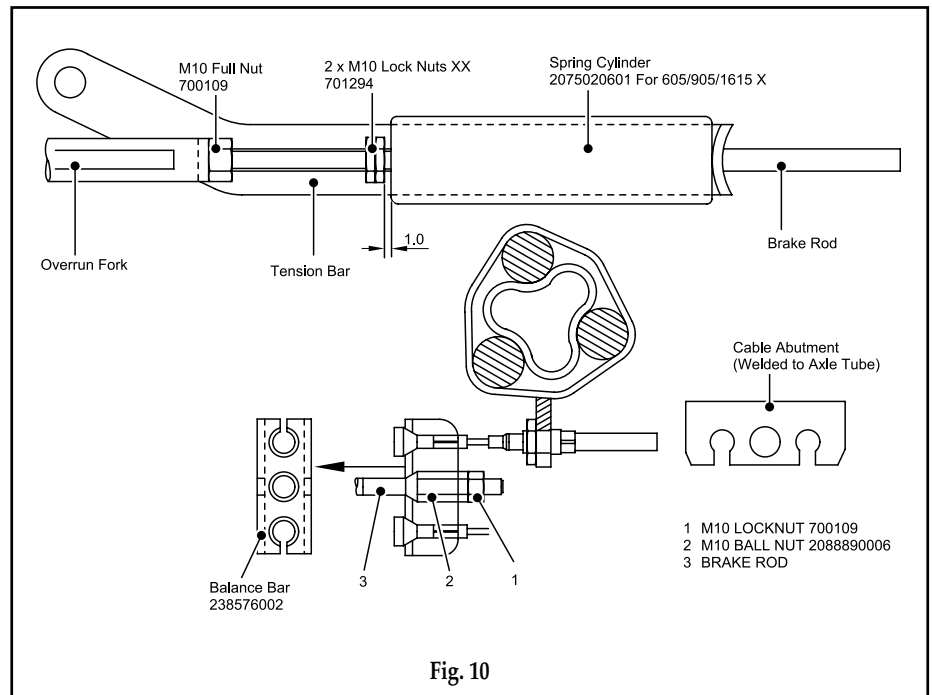

Fig. 10
- x. Ensure the balance bar (compensation) is being pulled evenly. This bar (double on tandem axles) should always be paralleled with the axle tube when pulled (figs. 8 & 10). Adjust M8 lock and ball nuts, if necessary, to achieve correct parallel position (fig. 10).
Over adjustment to the long ball nut (Fig 10), could induce movement of the inner brake cable, reducing the effective clearance of the brake shoes. If the over run lever will not make contact, it is possible the two lock nuts, forward of the spring cylinder, are incorrectly adjusted. Loosen the nuts and adjust the brake rod as above (Figs 8 & 10).
- xiii. Adjust the two locking nuts, forward of the spring cylinder (fig. 10), (on some chassis a single Nyloc nut is used) to give 1mm of clearance on the spring cylinder. This cylinder (the energy store for the handbrake operation) must be able to rotate only, not slide on the brake rod.
(See Fig. 10). If the overrun assembly is fitted with a gas strut handbrake then no spring cylinder is fitted - therefore ignore this paragraph).